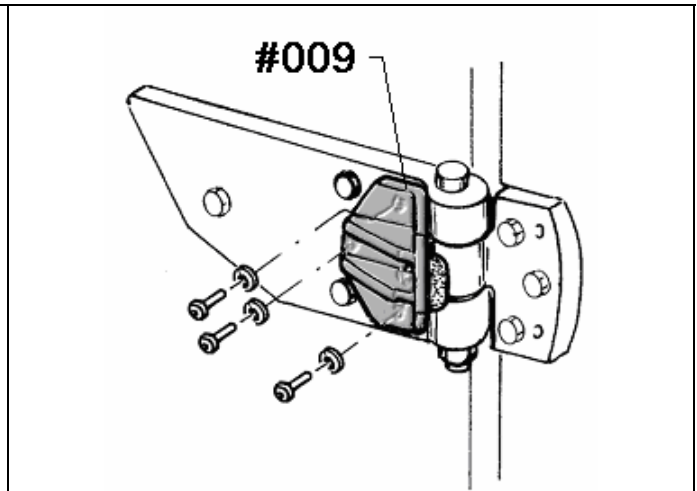

Figure 5-95. RH Armored Door Installation - Upper Hinge, Door Bumper (4 of 4).
9. Install the door bumper as shown in Figure 5-95. These fasteners may be fully tightened.